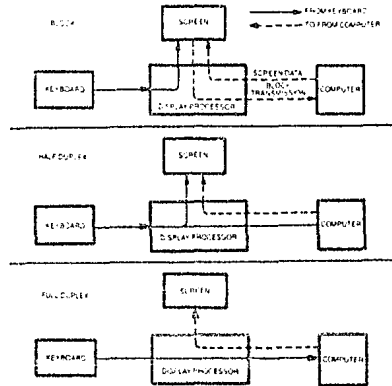

Figure 3-2 Communication Modes
available are block, half duplex (conversation), and full duplex (conversation). The communications flow caused by these modes are illustrated in Figure 3-2.
3.4.2.2 Conversation Mode—In this mode, two-way transmission occurs continuously between the screen and the computer. You can either send the information to the computer *at the same time it is displayed on the screen*, or you can send it to the computer and the computer will echo back the information on the screen. (The time needed to echo back the information is so short it will *seem* to happen simultaneously.) Regardless of when you send data, the terminal can always receive information from the computer. When the information is displayed simultaneously with the transmission, it is called "half duplex." When the information is sent first to the computer and echoed back to the terminal, it is "full duplex." Refer to Figure 3-2 for a diagram of the information flow.